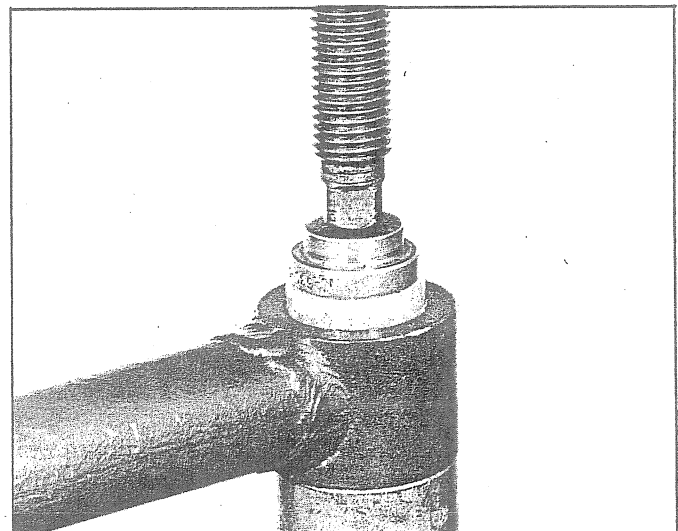

Fig. 133 - Installing New Ball Stud and Bushing into Housing
3. Press new ball stud and bushing into tie rod housing as shown in Fig. 133.